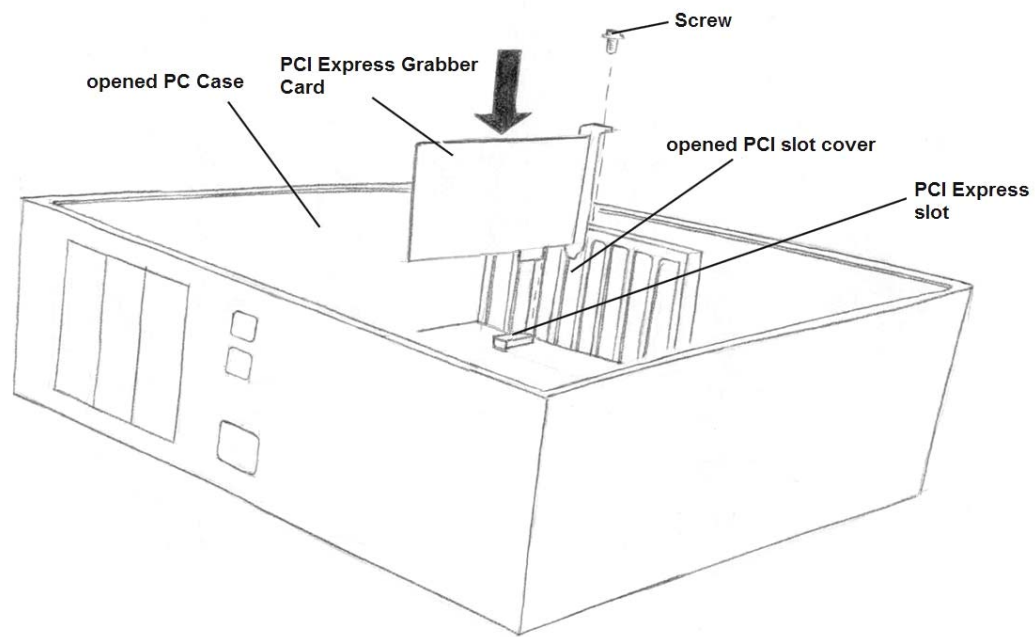

Figure 18: Inserting the Card into the PCI Express- Slot
- As shown in *Figure 18*, insert the pciGrabber-4express into the slot with the connectors facing outwards. The card should be inserted securely.
For stability reasons, and to ensure a secure Ground connection to the computer's housing, screw the card to the housing (see Figure 18).